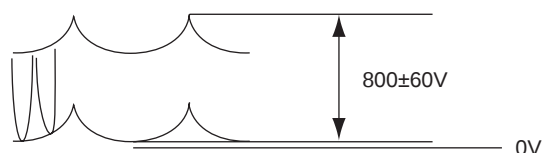

Fig.3
6. Confirm that waveform is $800V \pm 60V$. (Fig. 3)